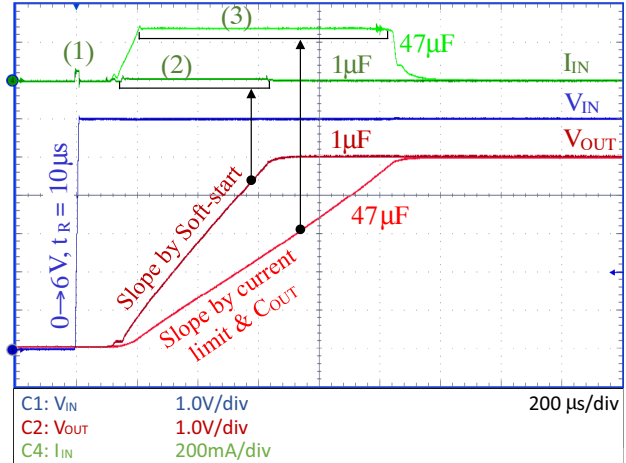

Figure 73.
Now back to LDO application. Here we can see two different inrush current spikes. The first one is caused by the LDO's input capacitor (C_{IN}) charging from zero to the input voltage level. It happens when the previous power block (for example DC/DC) starts providing the input voltage to the LDO circuit. The maximum level of this inrush current is given by Equation 16. It doesn't matter if LDO is enabled or disabled as this inrush current spike is related only to C_{IN} and it can't be suppressed by the LDO, it is matter of previous power block. This inrush current spike is shown at Figure 73, point (1).